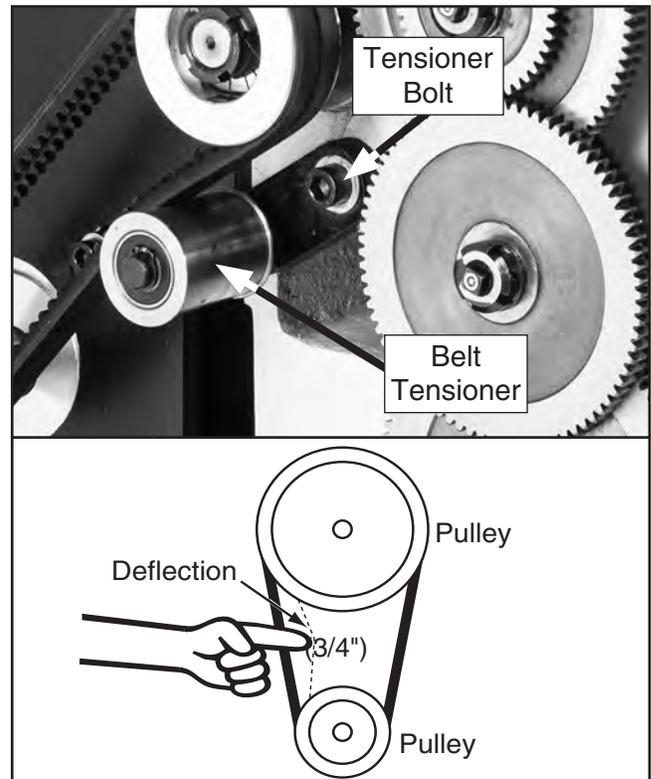

Figure 115. Adjusting V-belt tension.
3. Loosen tensioner bolt (see **Figure 115**).
4. Push tensioner against V-belt to tension it, then secure tensioner (see **Figure 115**).
5. Check belt tension: The belt is correctly tensioned when there is approximately 3/4" deflection when it is pushed with moderate pressure (see **Figure 115**). If there is more than 3/4" when belt is pushed, loosen tensioner bolt, adjust belt tension, then tighten tensioner bolt.
3. Loosen tensioner lock bolt, pivot tensioner to right and secure it temporarily, then remove V-belt (see **Figure 115**).